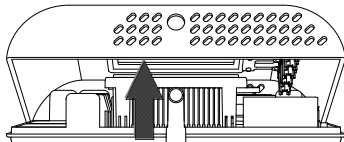

Fig. 3
- 3 Turn the cover, while pressing it slightly, until it is extracted (Fig. 3).